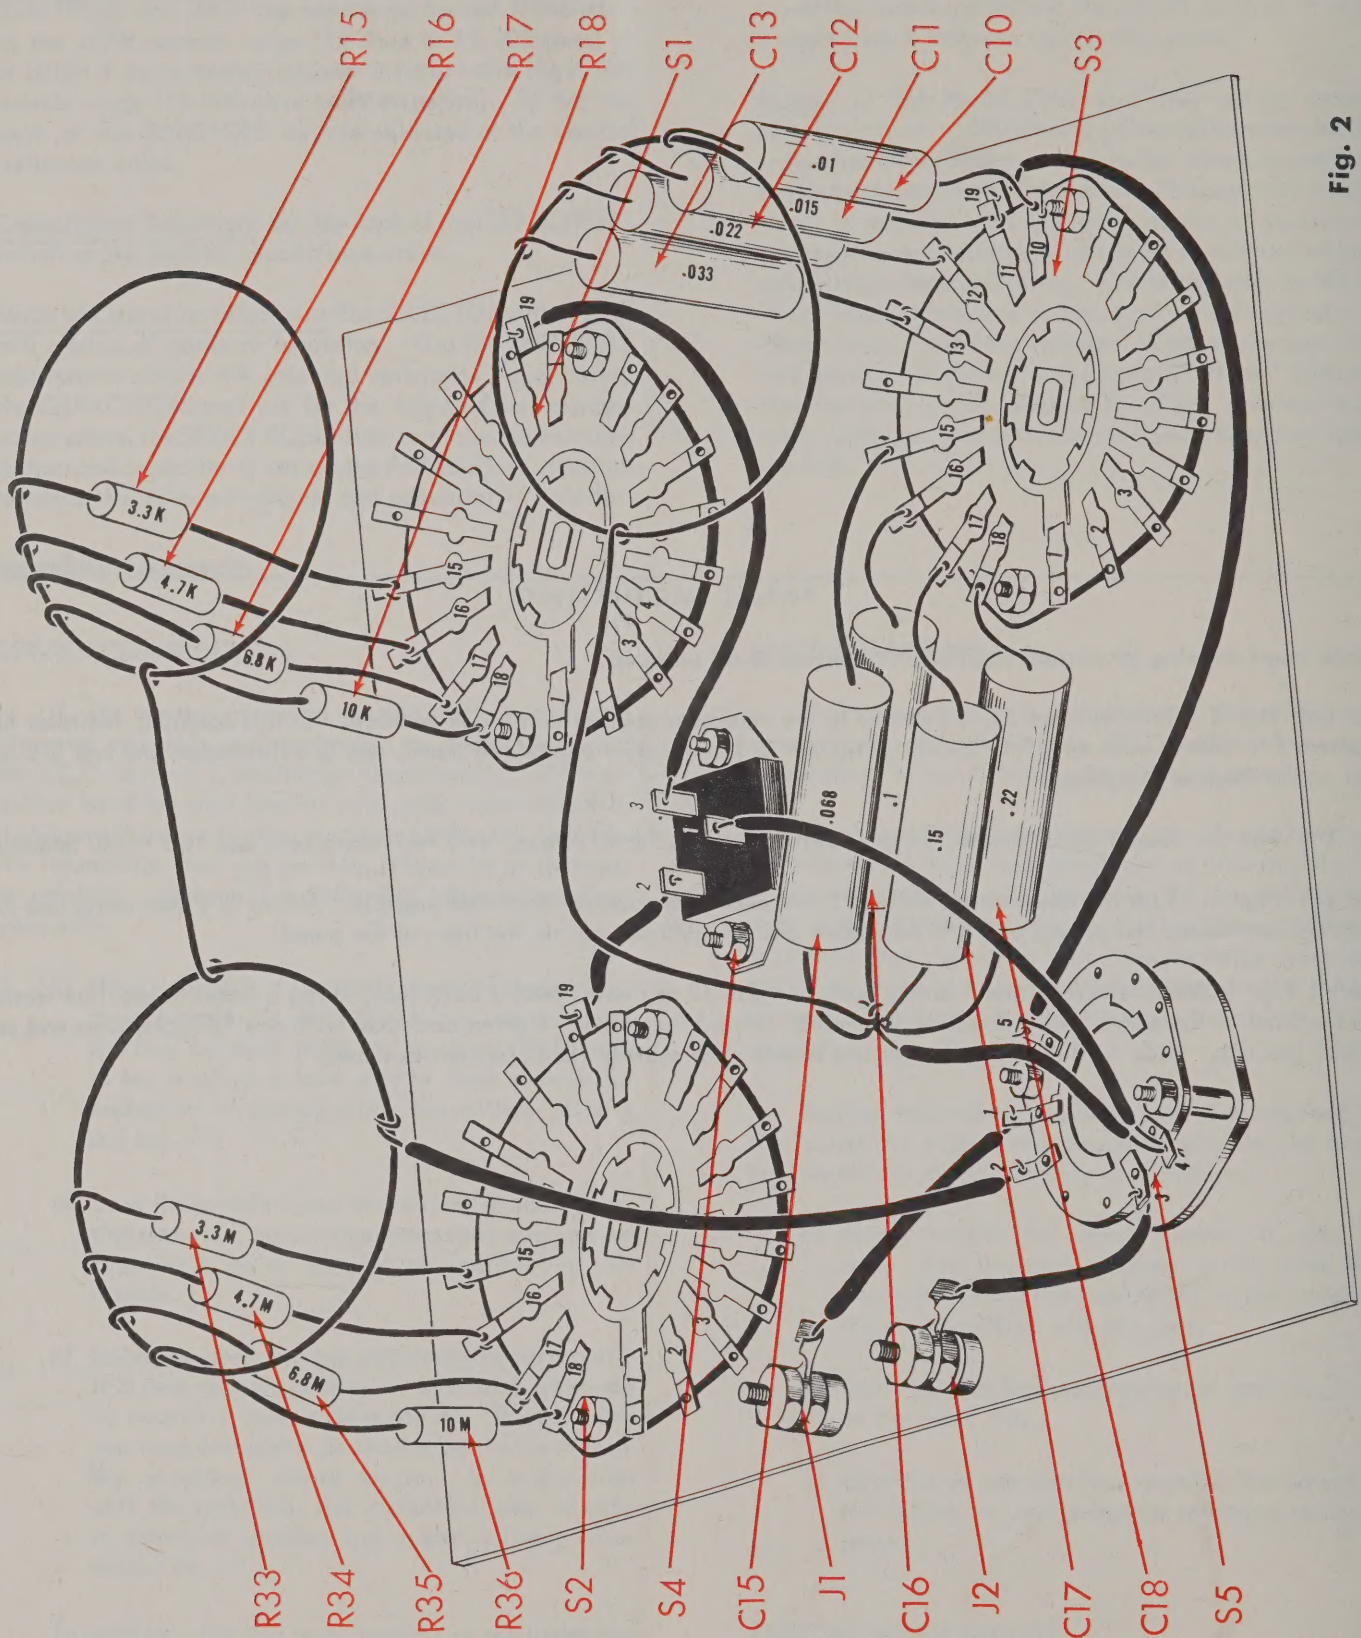

Fig. 2
1. ~~( )~~ ☒ Fig 2. Stretch the piece of heavy bare wire to eliminate any kinks. Cut three 7 1/4" lengths. Form each piece of wire into a ring of approximately 2" diameter. Overlap the extra lengths of wire and solder.
2. ~~( )~~ ☒ Fig. 2. Cut both leads on all resistors to 1/2".
3. ~~( )~~ ☒ Fig. 2. Low value resistors (15Ω to 10KΩ) are mounting on switch S1. High value resistors (15KΩ to 10MΩ) are mounted on S2. Connect one end of the 10KΩ (brown, black, orange, silver) resistor, R18, to S1-18 (S). Leave approximately 1/4" of wire between the resistor body and the switch contact.
4. ~~( )~~ ☐ Fig. 2. Similar to the above, connect and solder the following resistors to the indicated contact on the switches.
19. ( ) Fig. 2. Put knobs over all four shafts on the controls. The LOW resistor knob should face "15", the HIGH resistor knob should face "15", the CAPACITOR knob should face ".0001" and the SELECTOR knob should face "OPEN". Tighten all set screws. Your instrument is now complete and ready for use.